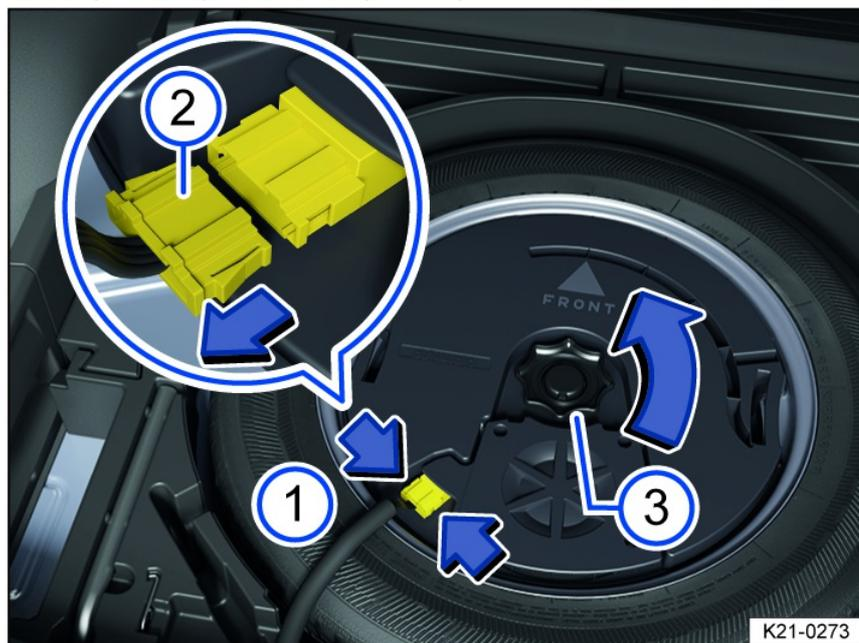

Fig. 216 In the luggage compartment: removing the subwoofer (version 1).
6. To release the connector, press the *fig. 216* lugs together (arrows ①).
7. Remove the connector fig. 216 in the direction of the arrow and set the electrical wire that you have just removed to one side.
8. Unscrew the handwheel fig. 216 in the direction of the arrow.
2. Push the connector fig. 216 in until you hear it click into place.
3. Turn the handwheel fig. 216 on the threaded pin in the opposite direction to the arrow until the subwoofer is securely fastened.